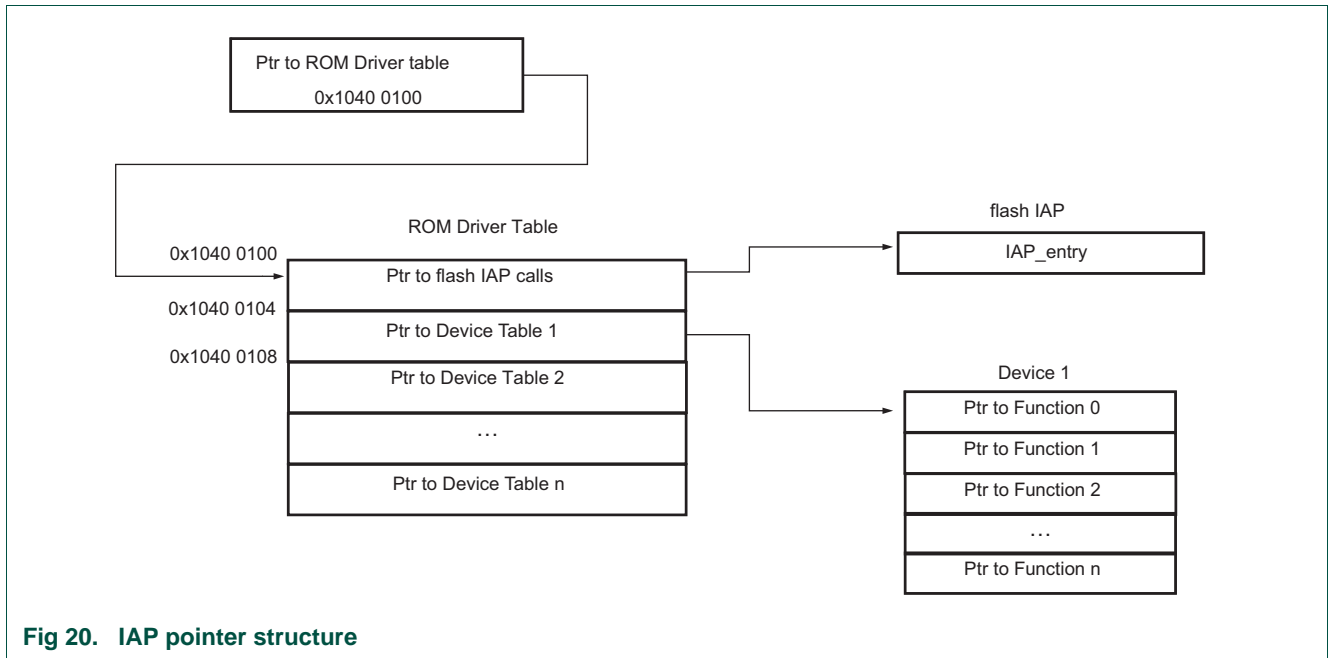

Fig 20. IAP pointer structure
1. Extract the IAP invoke call (`iap_entry`) entry pointer. The IAP invoke call is located in the IAP jump table which is pointed to by the ROM driver table at address `0x1040 0100 + 0x000`. See Figure 20.